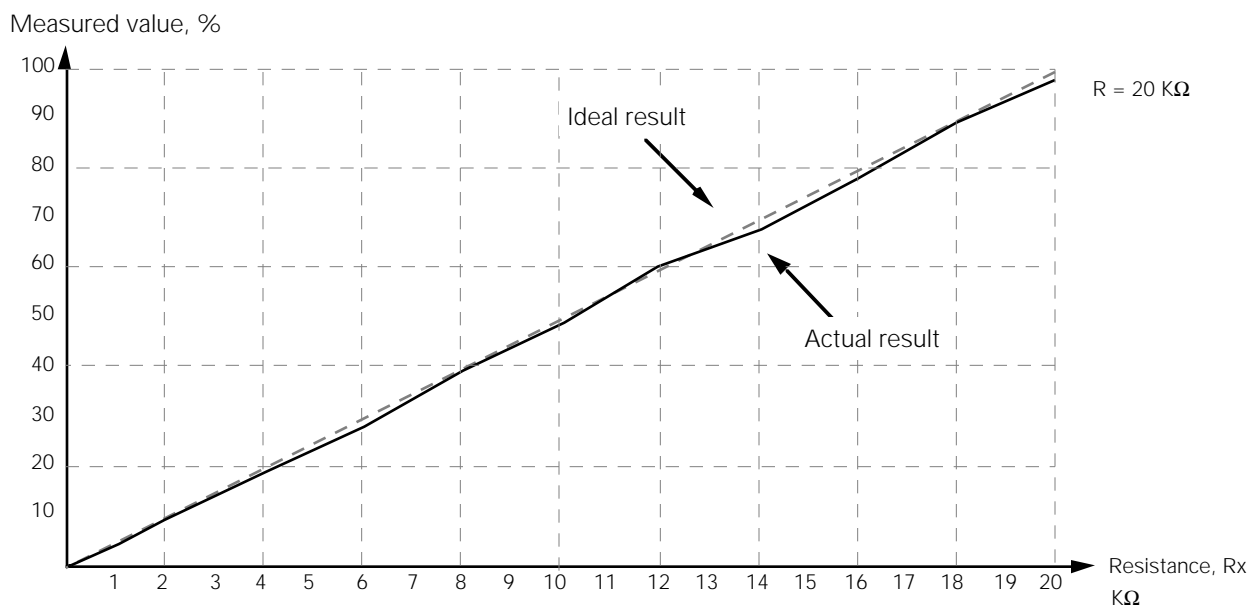

Figure 10 Improvement B – use of V_{ddctl}
The new routine handles V_{DDCTL} and also takes care of the final result. It is called *RESADC1.ASM*. See program listing (2) and Figure 10.